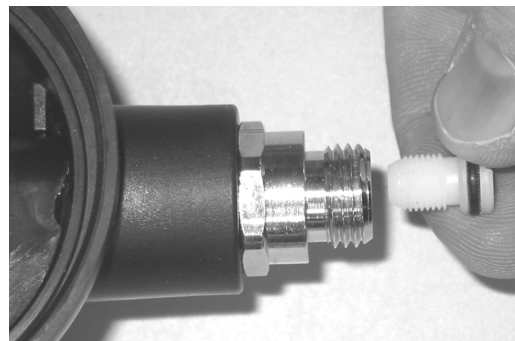

Fig. 10
**⚠ CAUTION:** It is important that 3 Threads of the POPPET (6) Shaft are adjusted outside the LOCK NUT (12). The LEVER ARM (9) may otherwise become caught on the end of the POPPET Shaft, resulting in an uncontrolled free flow.
8. Lubricate and install the COUPLING O-RING (4) onto the INLET COUPLING (3). Install the COUPLING into the Inlet Tube of the HOUSING (8) with the Smaller Opening facing in. Turn clockwise using a 3/4" open end wrench to a torque of 110 in/lbs (Fig. 10).